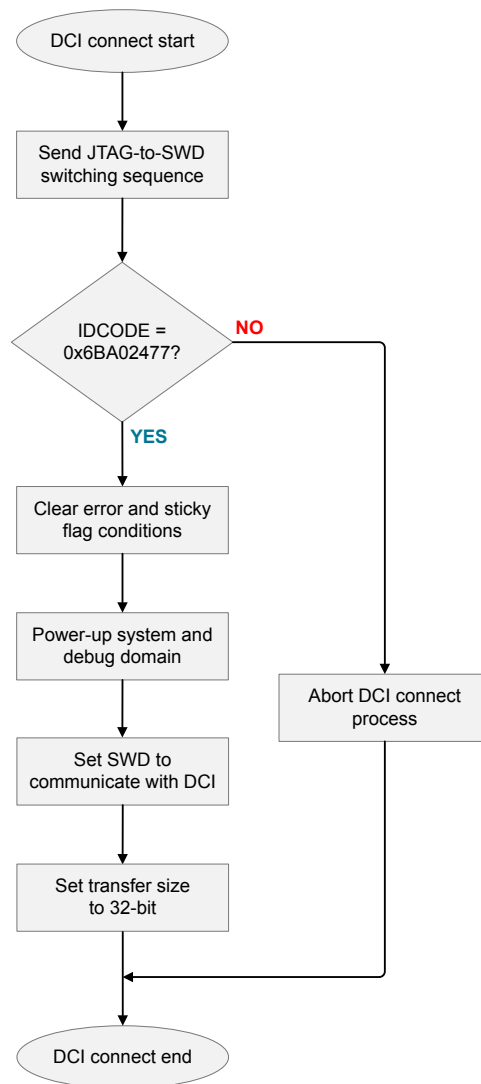

Figure 3.1. DCI Connection Flowchart
1. Connect to DCI according to Figure 3.1 DCI Connection Flowchart on page 5.